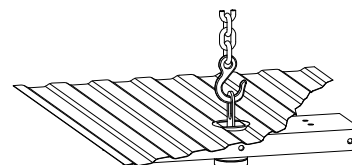

Figure A4
5. **Prepare a lifting device (optional).** The purpose of the device is to safely hold the hitch in position during part of the installation. See Figure A4 for an example. A simple mechanical lifting device is available for purchase from B&W.